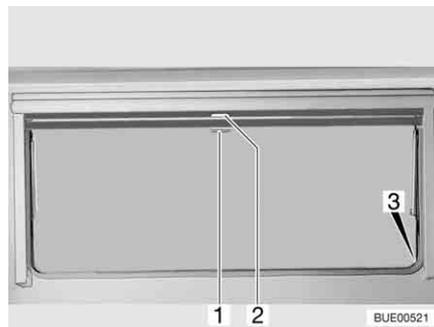

Fig. 62 Hinged window
- Pull blind at the handle (Fig. 62,2) downwards. If the blind is to be completely closed, it is suspended into the locking devices (Fig. 62,3) situated on both sides of the window frame.
- If the blind is completely closed: Press handle (Fig. 62,2) downwards and, at the same time, tilt it slightly inward. The blind can be taken out of the locking devices situated on both sides of the window frame.
- If the blind is in an intermediate position: Pull the handle (Fig. 62,2) slightly downwards until the locking device releases.
*Closing:* ■ Pull insect screen at the handle (Fig. 62,1) down and hang it into the locking devices (Fig. 62,3) situated on both sides of the window frame.
*Opening:* ■ Press handle (Fig. 62,1) downwards and, at the same time, tilt it slightly inward. The insect screen can be taken out of the locking devices situated on both sides of the window frame.